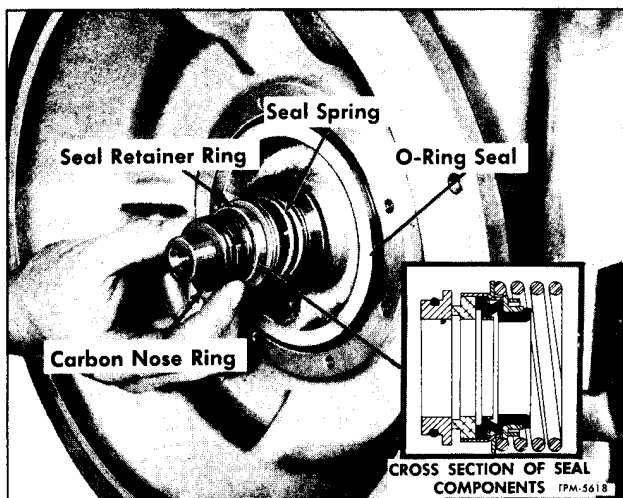

Figure 56—Installing Crankshaft Seal Components
1. Install O-ring seal (4) against compressor or housing around bearing head (fig. 56).
2. Position seal spring on compressor shaft (fig. 56).
3. Making sure that carbon nose ring is clean, (do not touch with fingers after cleaning), wet face of ring with compressor oil. Place nose ring into ring retainer, making sure that notches in retainer are properly aligned with notches in nose ring. Install seal assembly against spring (fig. 56).
4. Clean seal cover (3) and oil the O-ring seal of seal assembly (41), then install cover over seal evenly to compressor housing. Install cover attaching cap screws alternately to a torque of 12 foot-pounds.